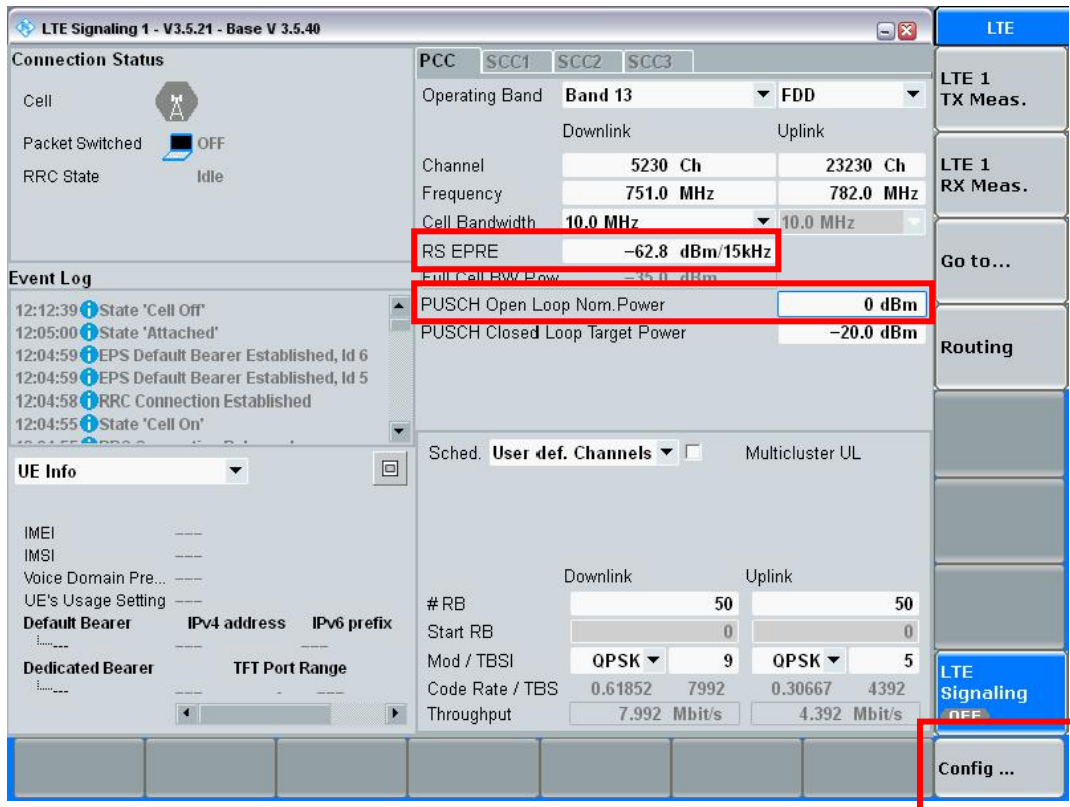

Figure 14: Main LTE Settings
1. Set the **RS EPRE Power** to **-62,8 dBm / 15 kHz** and the **PUSCH Open Loop Nom. Power** to **0 dBm** (see Figure 14).
2. Select **Config...** to continue with the advanced settings (see Figure 14).
To ensure a good radio communication quality, the value shall be similar to the adjusted RS EPRE Power (−62,8 dBm / 15 kHz, cf. Figure 14).